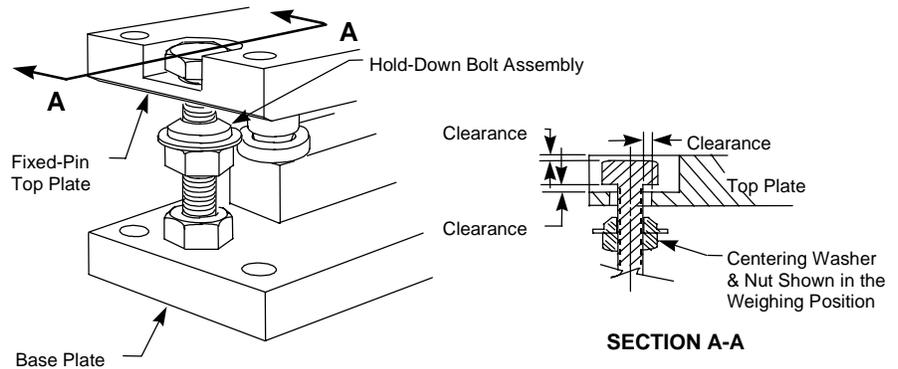

Figure 6-7: Flexmount Hold-Down Bolt Assembly
8. After all the top plates are down and applying load to the load cells, make sure there is adequate clearance between the hold-down bolt and retaining hole. See the hold-down bolt assembly shown in Figure 6-7.